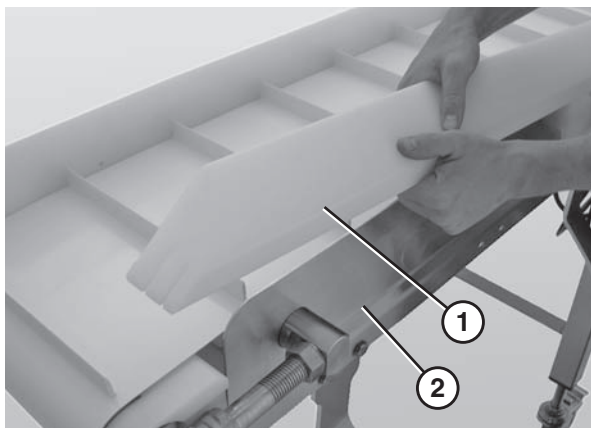

Figure 46
2. Remove the guide (**Figure 46, item 1**) from the conveyor (**Figure 46, item 2**).